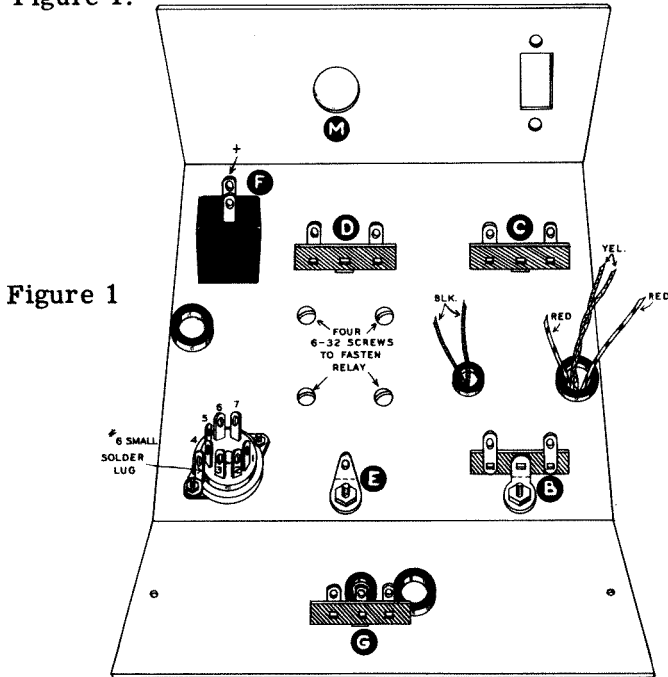
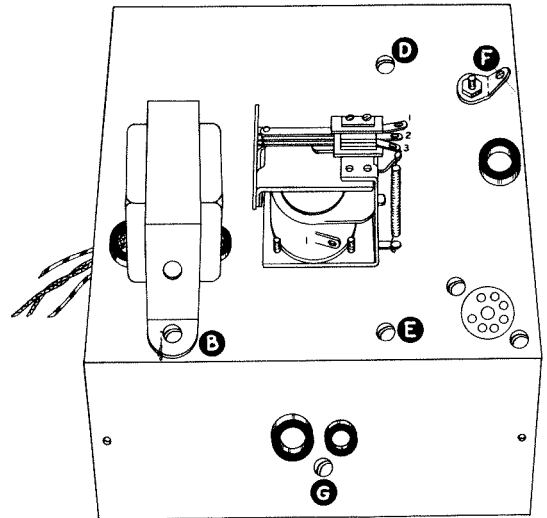

Figure 1
Figure 2
- () Examine Figure 1 closely and insert two 5/16" rubber grommets and three 3/8" rubber grommets where shown.
- () Using the 3-48 screws, nuts and #3 lockwashers, with the #6 small solder lug, mount the 7-pin miniature socket, positioning the tube pins and the #6 small solder lug as shown in Figure 1.
- () Referring to Figure 1, mount a #6 solder lug at hole (E) using a 6-32 x 1/4" screw. Position as shown and secure with a 6-32 nut.
- () Mount a 2-lug terminal strip at hole (D) using a 6-32 x 1/4" screw. Position as shown and secure with a 6-32 nut and a #6 lockwasher under the nut.
- () Mount the selenium rectifier in hole (F). Position the rectifier so that the side marked plus will appear as shown in Figure 1. On the other side of the chassis place a #6 solder lug over the stud and secure with a 6-32 nut. Position the lug as shown in Figure 2.
- () Mount the 3-lug terminal strip at hole (G) with a 6-32 x 1/4" screw and nut, using a #6 lockwasher under the mounting foot of the terminal strip and a #6 lockwasher under the nut. See Figure 1.
- () Next mount the power transformer. Insert the two red and two yellow leads of the transformer through the 3/8" rubber grommet and pass the two black leads through the 5/16" rubber grommet. See Figure 2.
- () Using the 6-32 x 1/4" transformer mounting screws, secure the two 2-lug terminal strips on the underside of the chassis. Position as shown in Figure 1, and secure the transformer and the two terminal strips with 6-32 nuts and #6 lockwashers.
- () Mount the relay so that the solder lugs on the contact leaves are facing away from the transformer. Refer to Figure 2. Place a #6 lockwasher over each of four 6-32 x 1/4" screws. Note that the relay has four tapped holes in the bottom. Fasten the relay by inserting the screws through the chassis from the underside. See Figure 1.